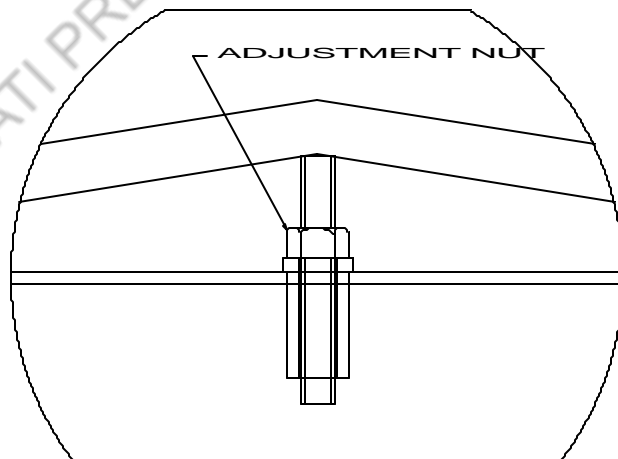

Figure 6b
2. Begin on the right hand side. Bring the ram down, as if checking the blade clearance, until the blades, items 1 and 2, just pass each other.
3. Loosen the (3) main bolts, item 5 (1-1/8" socket or wrench).
4. Increase blade clearance by first loosening jam-nut, item 4 (3/4" wrench) and then tightening the adjustment screw, item 3 (5/8" wrench).
5. Decrease blade clearance by first loosening jam-nut, item 4 and then loosening the adjustment screw, item 3.
6. Tighten jam-nut, item 4, when proper clearance is achieved. Finish by retorquing the (3) main bolts to 200 ft-lb.
8. Bring the ram half way up. Increase clearance in the middle by loosening tension bar nut. Decrease clearance by tightening nut. See Figure 6b.